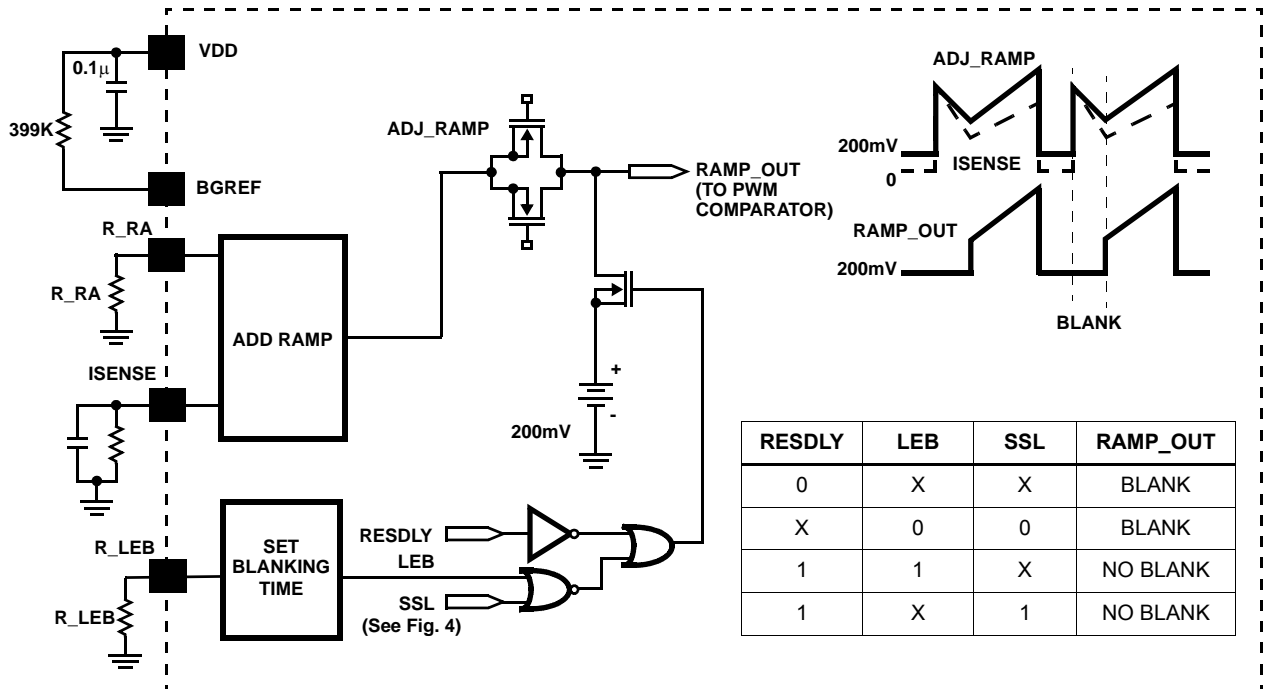

FIGURE 9. SIMPLIFIED RAMP ADJUST AND LEADING EDGE BLANKING CIRCUITS
- The ramp adjust block adds an offset component (200mV) and a slope adjust component to the ISENSE signal before processing it at the PWM Logic block, as shown in Figure 9. This ensures that the ramp voltage is always higher than the OAGS (ground sensing opamp) minimum voltage to achieve a “zero” state.
- Typical ramp values are hundreds of mV over the period on a 3V full scale current. Too much ramp makes the controller look like a voltage mode PWM, and too little ramp leads to noise issues (jitter). The amount of ramp (Vramp), as shown in Figure 9, is programmed with the R_RA resistor and can be calculated with Equation 10.